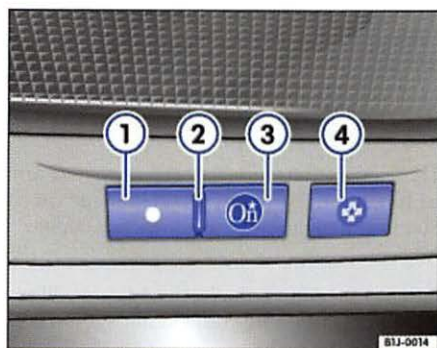

Fig. 5 DOT button
- Press the DOT button ⇒ fig. 5 ① at the end of a call. You'll hear the words <OnStar Request Ended>.